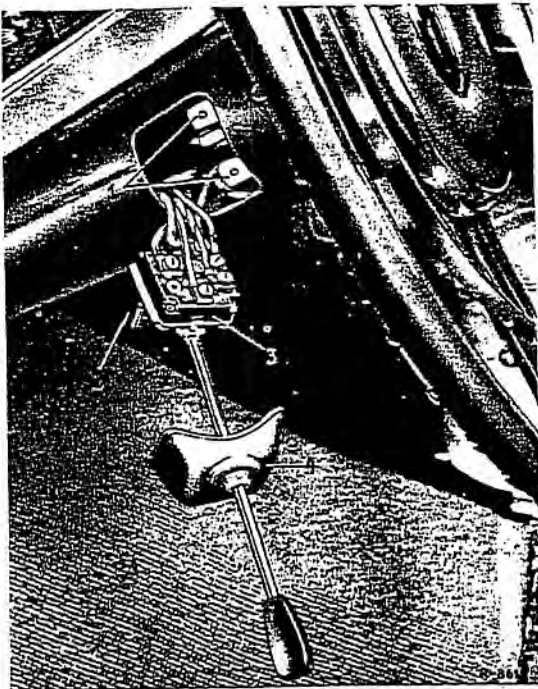

Fig. 54-17/1
2. Take the rubber sleeve (4) out of the steering column jacket and push it back (Fig. 54-17/1).
3. Unscrew the two cross-recess head screws on the angle bracket (2) from the base (1) of the steering column jacket.
4. Pull the switch (3) outward and disconnect the electric cables (Fig. 54-17/1).